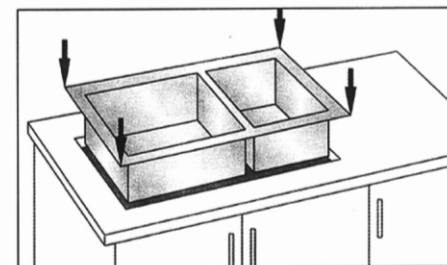

FIGURE 4
6. Verify that the sink fits perfectly. The lip of the sink should be resting on the countertop. (FIGURE 4)